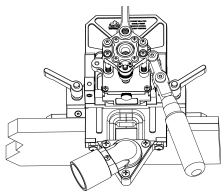

FIG. 19
4. Loosen the large adjustment knob and slide the mounting plate back revealing your mortise. (See Figure 19)